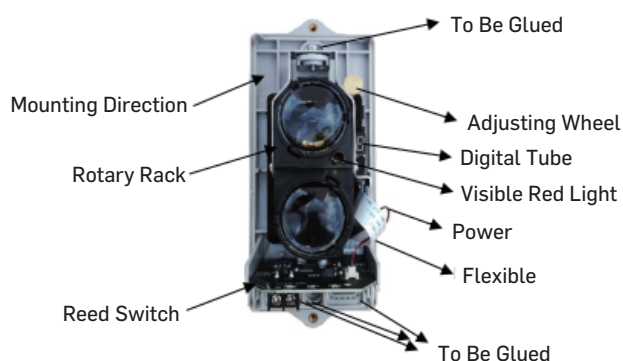

Fig.2
2) Components inside the detector and positions with glue are shown in Fig. 2.
Note: As the detector is mounted in the special environment such as dust, damp, three positions as shown in Fig. 2 should be sealed with glass glue or 703 silica gel after fixing and wiring, ensuring the detector works stably.